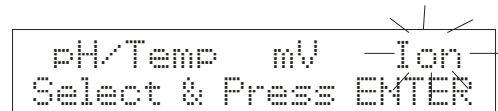

Figure 48
2. Turn the meter **ON**. If the meter is not in the Ion measurement mode, press **EXIT** and use **>/CAL** to select Ion. The mode selected will flash. See **Figure 48**. Press **ENTER** to confirm selection. The meter is now in Ion measurement mode.